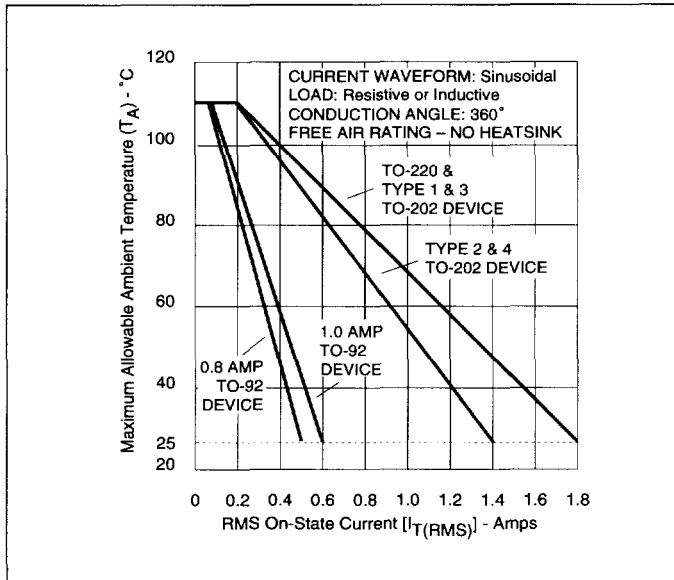

Figure 1.1 Maximum Allowable Ambient Temperature vs On-State Current
- (11) See Figures 1.1, 1.2, and 1.3 for  $T_A$  or  $T_C$  vs  $I_T$ (RMS).
- (12) Pulse width  $\leq 10\mu s$ .
- (13)  $T_C = T_J$  for test conditions in off-state.